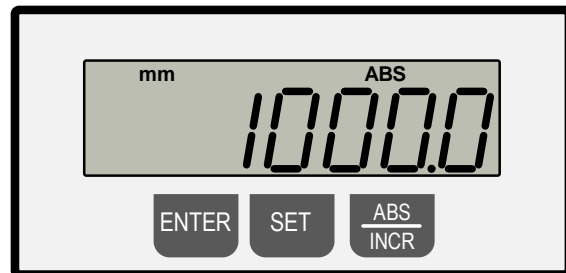

Figure 61: Stored reference dimension (example)
- Keep the buttons **ENTER + SET** pressed at the same time → The reference dimension stored in the unit appears. In our example it is the value “**1000.0 mm**” (see ⇨ Figure 61).
- The setting is complete (see ⇨ Figure 61).
→ The new calibration value “1150.0 mm” appears in the normal mode (see ⇨ Figure 61).